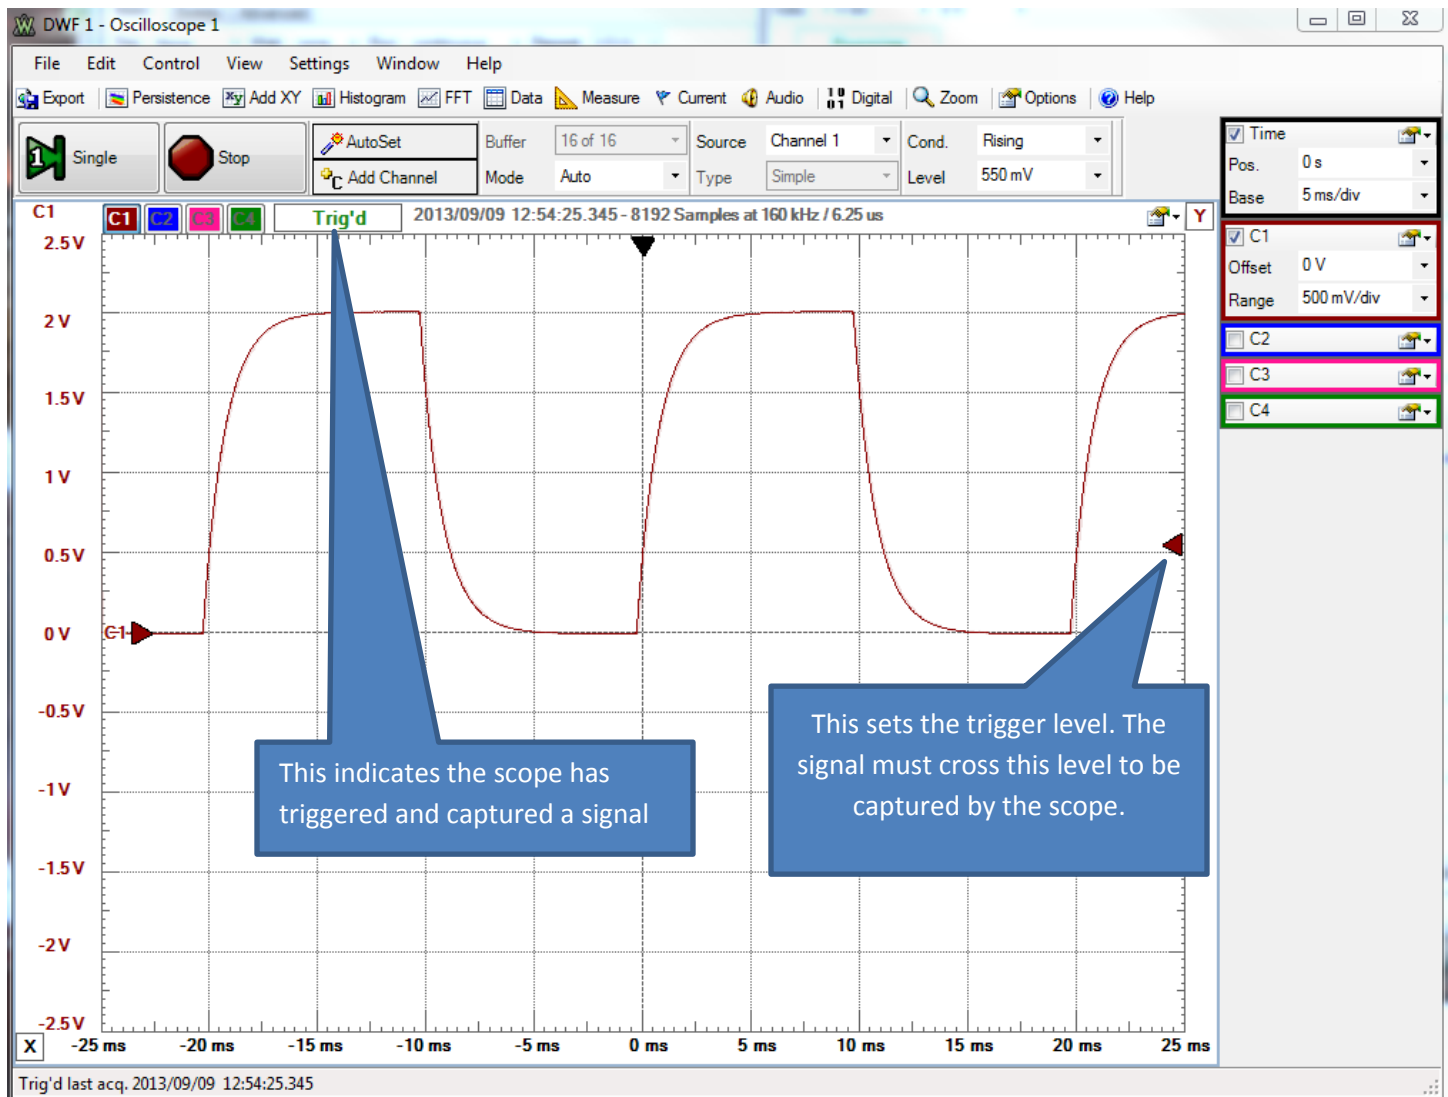

Figure 4. Oscilloscope screen for channel 1 for Part A.
5) Start the **Oscilloscope**. Turn off all of the channels except C1. Set the Time Base to 5 ms/div and for C1 set the scale to 500 mV/div with and offset of 0 volts. If you select the pull down menu at the right of the C1 channel box, you can change some of the parameters. I have changed the color for the signal on mine. If you start the scope and the waveform generator is on, your oscilloscope channel should look more or less like that in Figure 4. However, it may not and that will be explained shortly.
There are two important things to check on this figure, or whenever you use a scope. The first is to make sure you have “triggered”. The scope captures a signal once the signal has crossed the trigger level or threshold. If you do not see any signal and the scope has not triggered, change the trigger level by moving the trigger level (see Figure 4.)